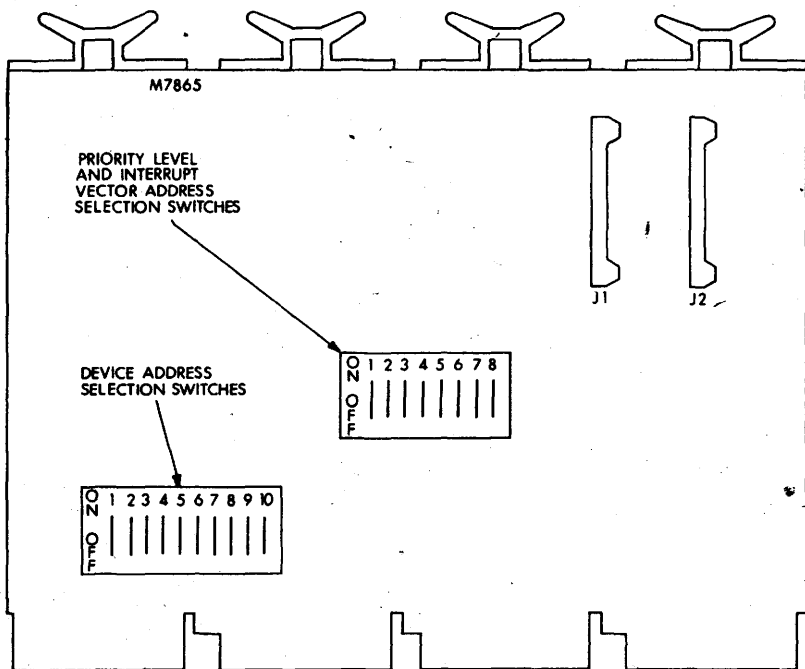

Figure 3 DR11-M Connectors and Switch Locations
**DEVICE SIGNALS**—Data and control signals are transferred between the devices and interface by two cables that attach to connectors J1 and J2. The location of the connectors on the module is shown on Figure 3. Table 1 lists the pin assignments of each connector and the signal drive or loading capability.